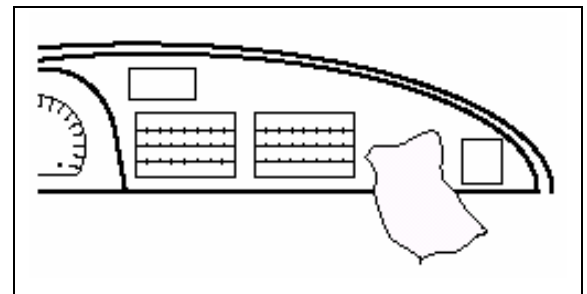

Figure A4
5. Clean surface thoroughly & wipe dry immediately with a new clean cloth. (Figure A4)